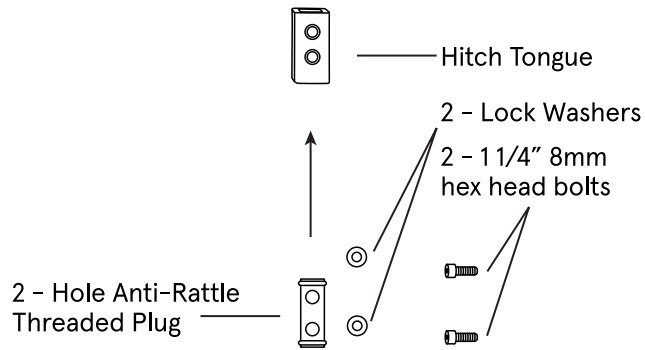

Fig. 2
1. Align and insert 2-Hole Anti-Rattle Threaded Plug into Hitch Tongue (end with 2 closely spaced/same size holes **(Fig. 2)**).